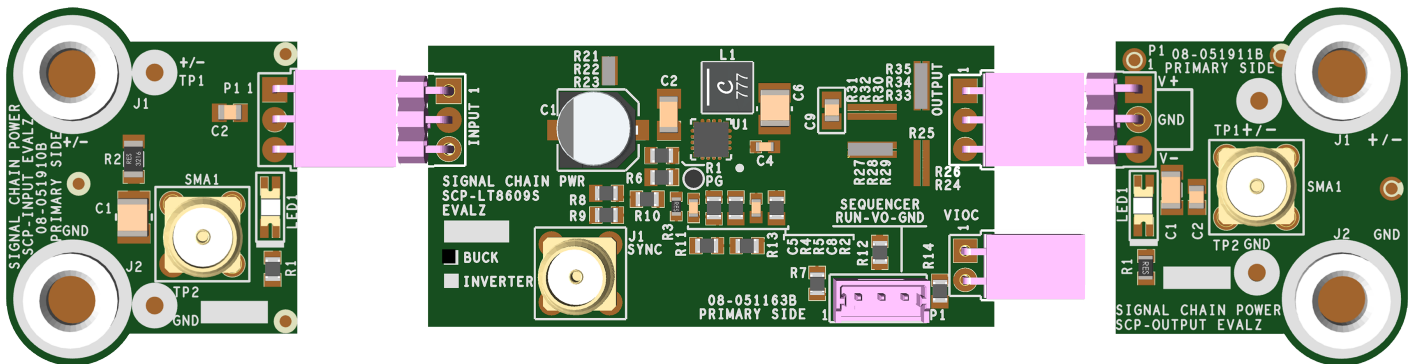

Figure 2. Proper Measurement Equipment Setup (Use SMA connectors for Measuring Input or Output Ripple)
2. Connect the SCP-INPUT-EVALZ and SCP-OUTPUT-EVALZ boards to the SCP-LT8609S-IEVALZ (refer to Figure 2) and connect the input board to a voltage source, V_{SOURCE} . Connect the output board to a voltmeter or dynamic load. Slowly raise the input voltage until the SCP-LT8609S-IEVALZ powers up into regulation and sweep V_{SOURCE} through the desired range of operation.